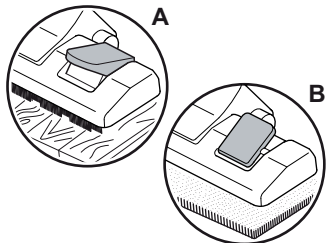

Fig. 16
4. Set the nozzle switch to "carpet" or "hard floor" according to the floor covering (Fig. 16) to be cleaned:
- **Hard floor (Fig. 16/A)**
- **Carpet (Fig. 16/B)**